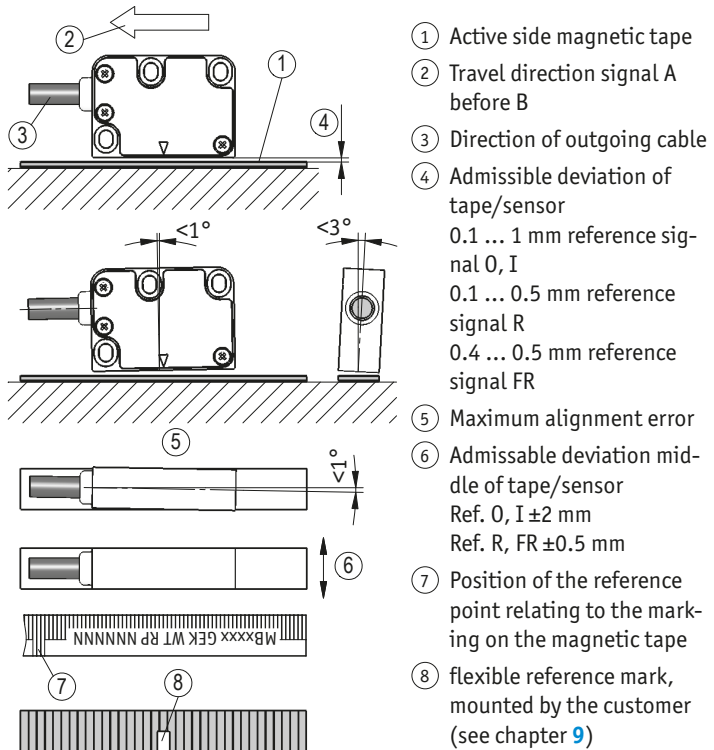
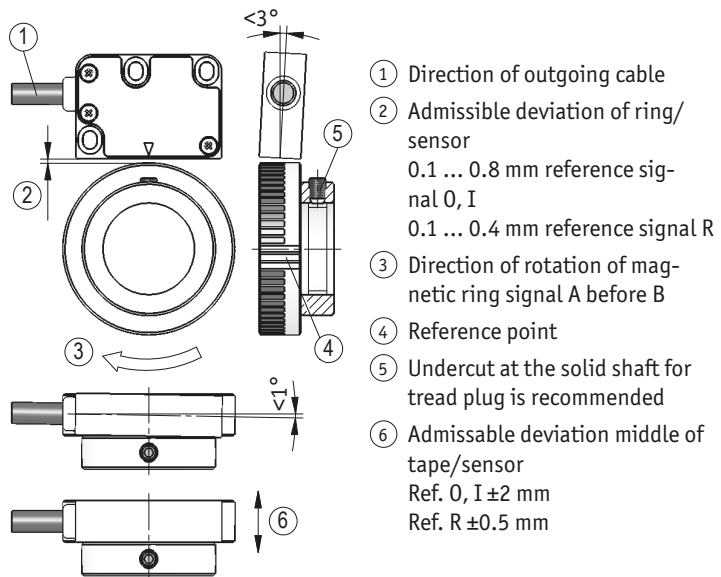

Fig. 6: Definition of the counting direction with magnetic tape and assemblage sensor / magnetic ring, gap measure, tolerances
Fig. 8: Definition of the counting direction with magnetic ring and assemblage sensor/magnetic ring, gap measure, tolerances
► Take care that the magnetic sensor is aligned correctly in order to ensure optimum sensing (see Fig. 6).
3. Provide for a relief groove in the solid shaft (see Fig. 8).
- The distance tolerances were not observed over the whole measuring length (see Fig. 6, Fig. 8).
- The magnetic sensor has been mounted with the active side turned away from the band (see Fig. 6, Fig. 8).
- Magnetic sensor has not been aligned according to Fig. 6, Fig. 8.